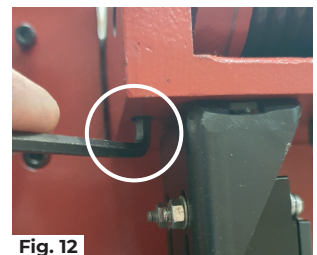

Fig. 12
- 3) Wind both upper grub screws clockwise (down) ¼ of a turn to meet & lock the hinge pivot bar (Fig. 12).
- 3) Wind both lower grub screws anticlockwise (up) only ¼ of a turn to raise the hinge bar to meet the upper grub screw (Fig. 12).